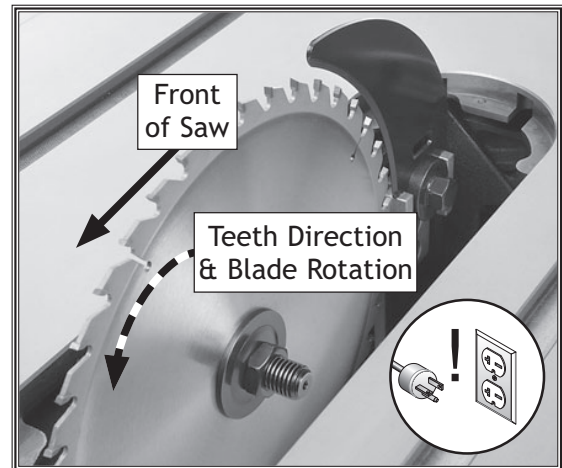

Figure 44. Example of correct blade direction.
5. Slide the blade over the arbor with the teeth facing the front of the saw, as shown in **Figure 44**.